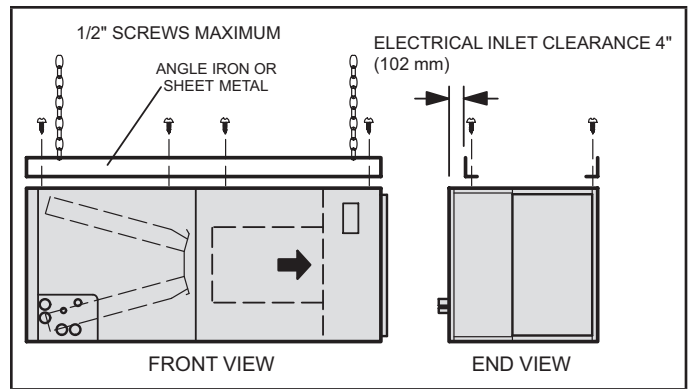

FIGURE 3. Suspending Horizontal Unit
- 4 - If the unit is suspended, the entire length of the cabinet must be supported. If you use a chain or strap, use a piece of angle iron or sheet metal attached to the unit (either above or below) to support the length of the cabinet. Use securing screws no longer than 1/2" to avoid damaging the coil or filter as illustrated in figure 3. Use sheet metal screws to connect the return and supply air plenums as required.
- 14 - If suspending the unit, it must be supported along the entire length of the cabinet. If using chain or strap, use a piece of angle iron or sheet metal attached to the unit (either above or below) so that the full length of the cabinet is supported. Use securing screws no longer than 1/2" to avoid damage to coil or filter, as illustrated in figure 3 on page 5. Connect return and supply air plenums as required using sheet metal screws.